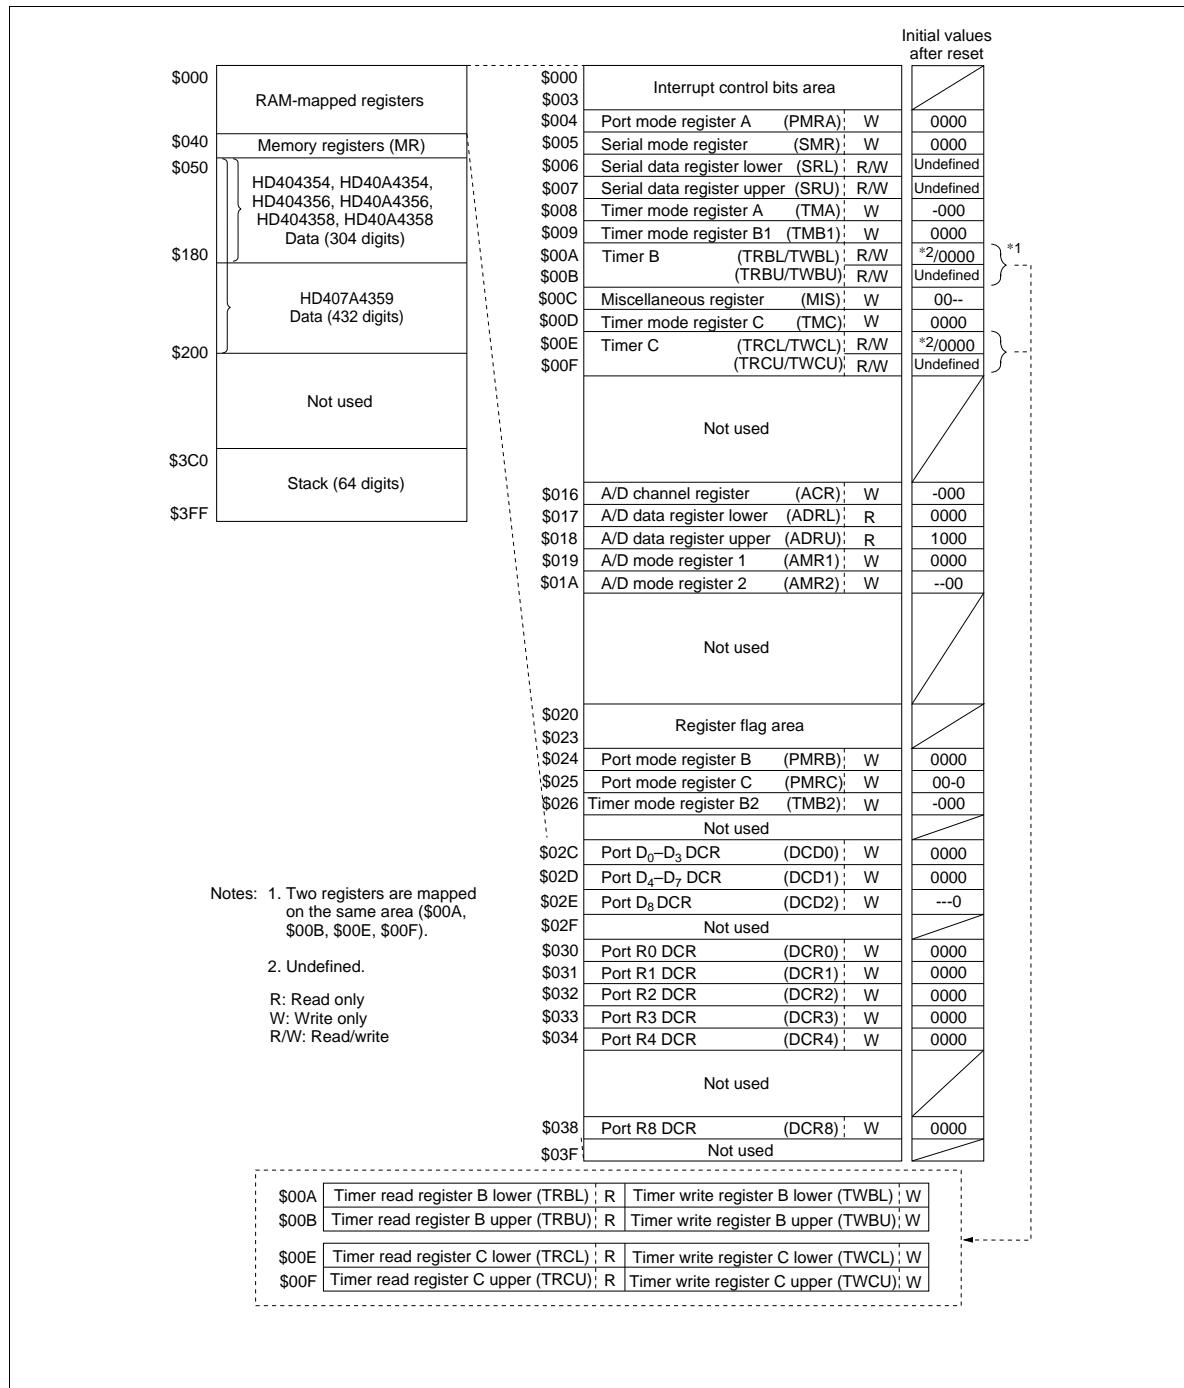

Figure 2 RAM Memory Map
The HD404354, HD40A4354, HD404356, HD40A4356, HD404358 and HD40A4358 MCUs contain 384-digit \times 4-bit RAM areas. The HD407A4359 MCU contain 512-digit \times 4-bit RAM areas. Both of these RAM areas consist of a memory register area, a data area, and a stack area. In addition, an interrupt control bits area, special function register area, and register flag area are mapped onto the same RAM memory space labeled as a RAM-mapped register area. The RAM memory map is shown in figure 2 and described below.
This area is used as mode registers and data registers for external interrupts, serial interface, timer/counters, A/D converter, and as data control registers for I/O ports. The structure is shown in figures 2 and 5. These registers can be classified into three types: write-only (W), read-only (R), and read/write (R/W). RAM bit manipulation instructions cannot be used for these registers.